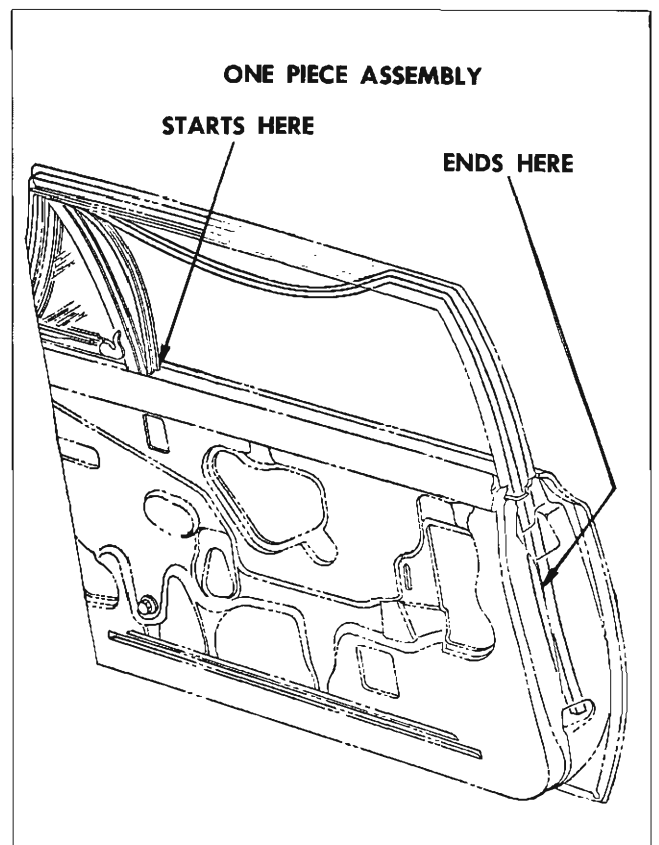

Fig. 12-33
1. Lower window. With finger pressure, pinch channel together at ventilator division channel (belt line) and pull channel out of door upper frame. Pull the run channel straight up to remove channel from retainer located below belt line (Fig. 12-33).